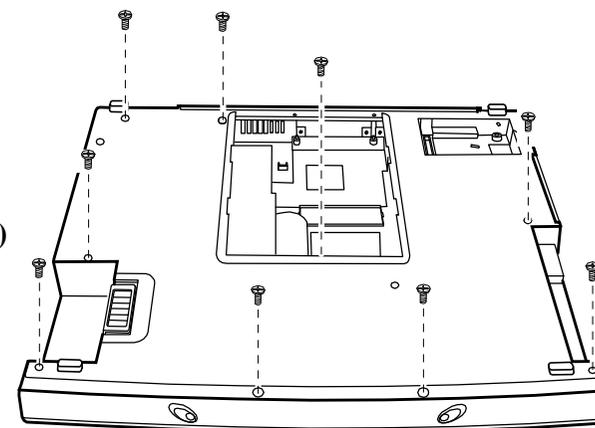

Figure 5-27. Removing the Base Frame Screws
Lift the frame free from the housing. (Refer to Figure 5-27.)
- 3. Replace the base unit frame. Secure the frame with nine screws. (Refer to Figure 5-27 earlier.)**